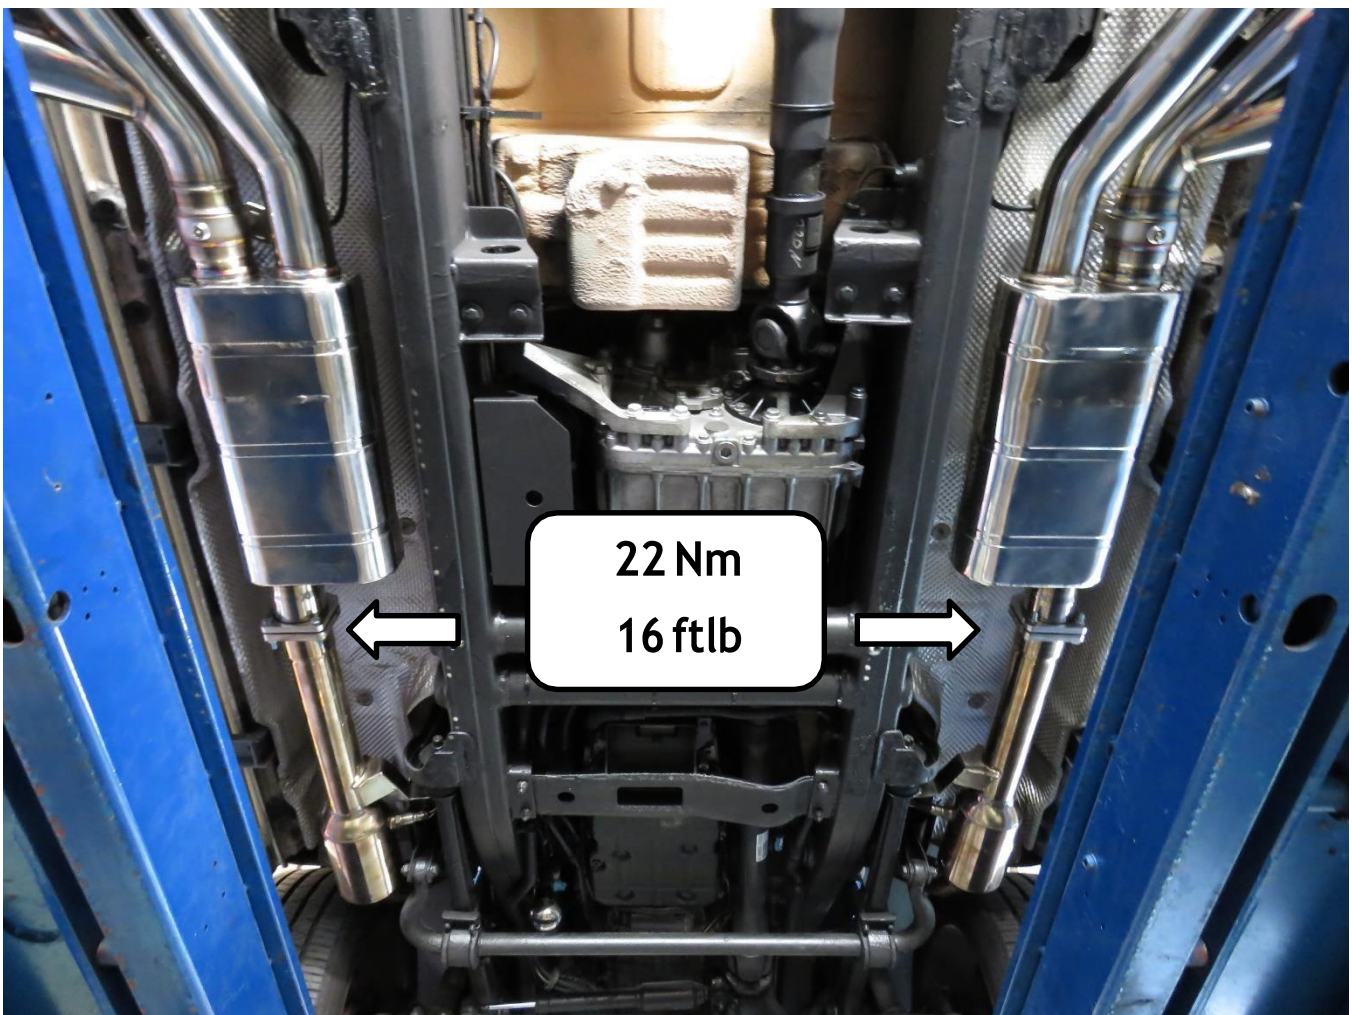

Fig.7
2. Install the iPE catback section to the position. The muffler and tips should be positioned horizontally and locked under appropriate clearance to avoid collision and unwanted noise. (Fig. 7).